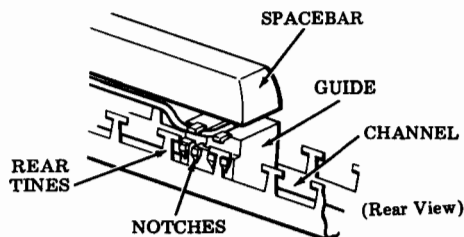

Fig. 3—Spacebar Removal
- Disengage the two rear tines (one at each end of spacebar) with a small screwdriver while pulling the spacebar up and toward the front (Fig. 3).